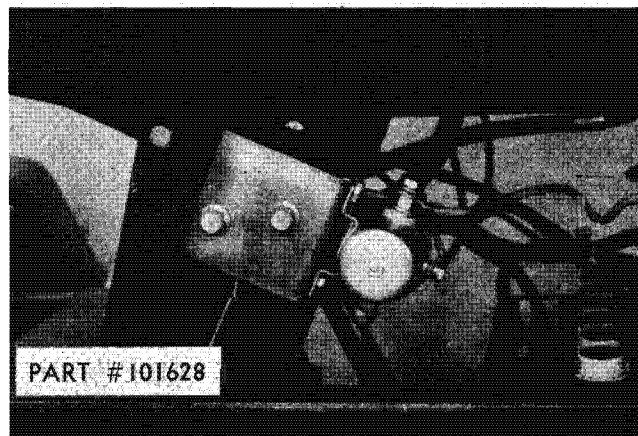
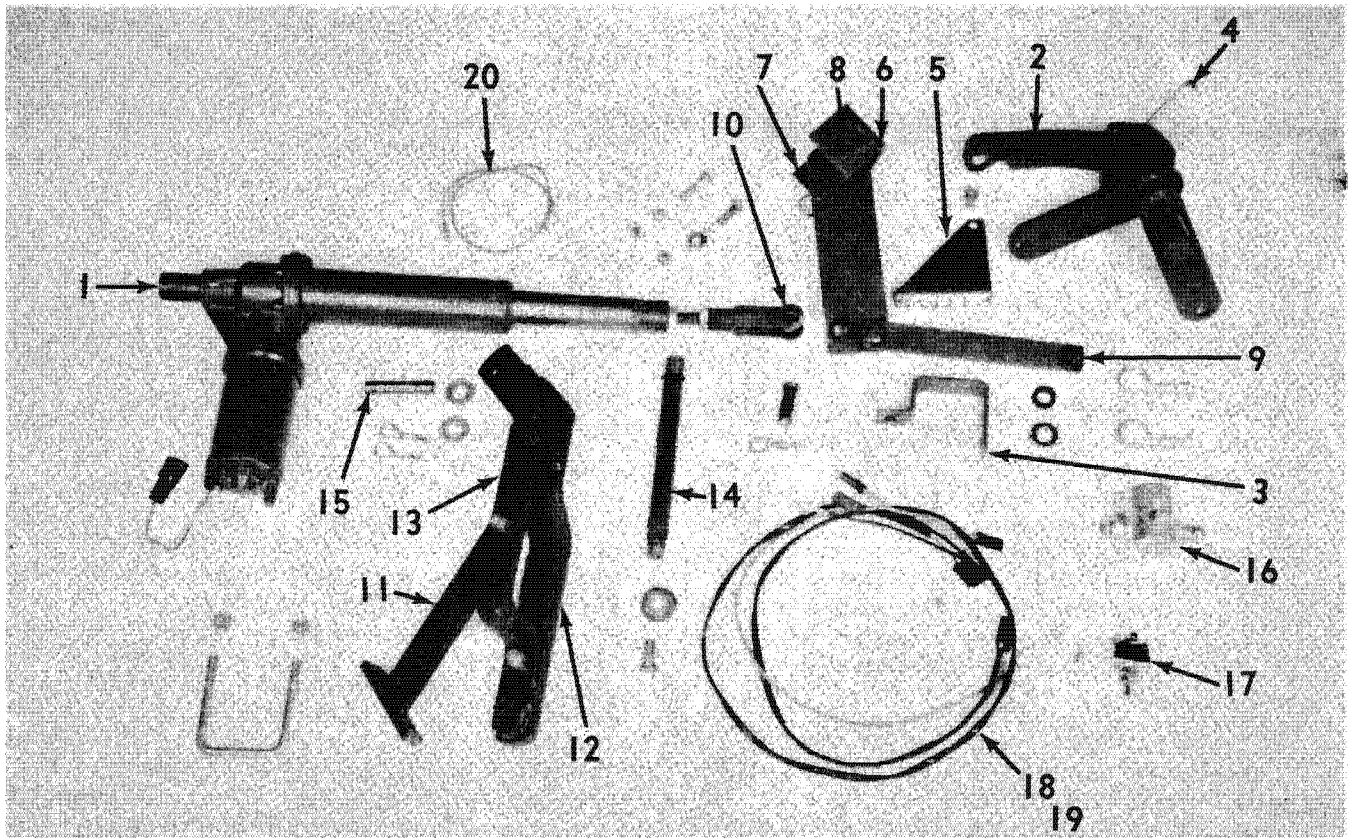

FIGURE 6
FIGURE 9
Item numbers in brackets used in these instructions refer to called out numbers in figure 9, which identify parts and assemblies furnished with this accessory.
9. Install the clevis yoke (10), stud, and jam nuts in the end of the actuator shaft as shown in figure 9. Run the yoke stud in until the distance from the center of the clevis pin hole to the end of the actuator shaft is approximately $4\frac{1}{8}$ ". Snug, but do not tighten the jam nuts against the clevis and actuator shaft. Position the linear actuator mounting stud between
10. If the tractor is equipped with a four position ignition switch (1969 or later model), the solenoid (16) must be mounted on the right flange of the hoodstand as shown in figure 6.
14. Pass one end of the accessory-to-solenoid wire (20) through the grommet and connect it to the center post of the solenoid. Connect the other end to the cigar lighter binding post (Raider models) or to the ignition switch side of a switch for other accessory such as headlights or electric clutch.
15. Connect the battery-to-solenoid wire from the top solenoid terminal to the positive (+) battery terminal (figure 6).
* Not shown in Figure 9. See Figure 6.